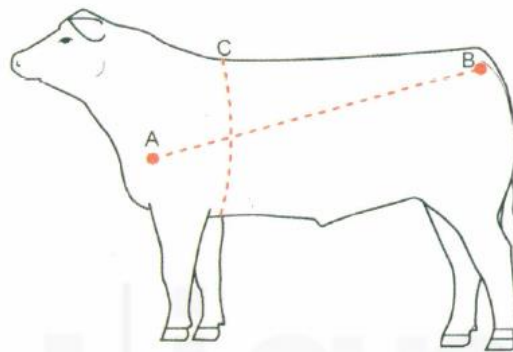

Fig 4.1: Measuring length and girth
- Measure the body length of the animal (AB) using the measuring tape in inches and note it down (Fig 4.1).
- Measure the chest girth (C) using a measuring tape in inches and note it down.